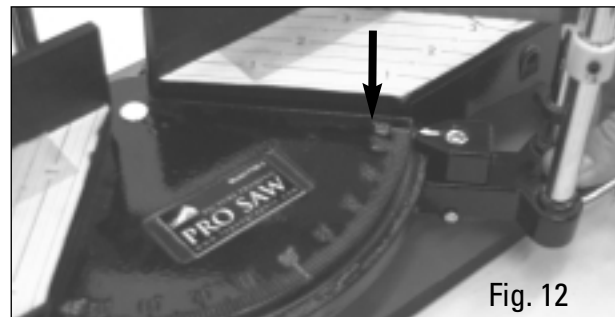

Fig. 12
1. Set pivot to 45° on right (Fig. 12).